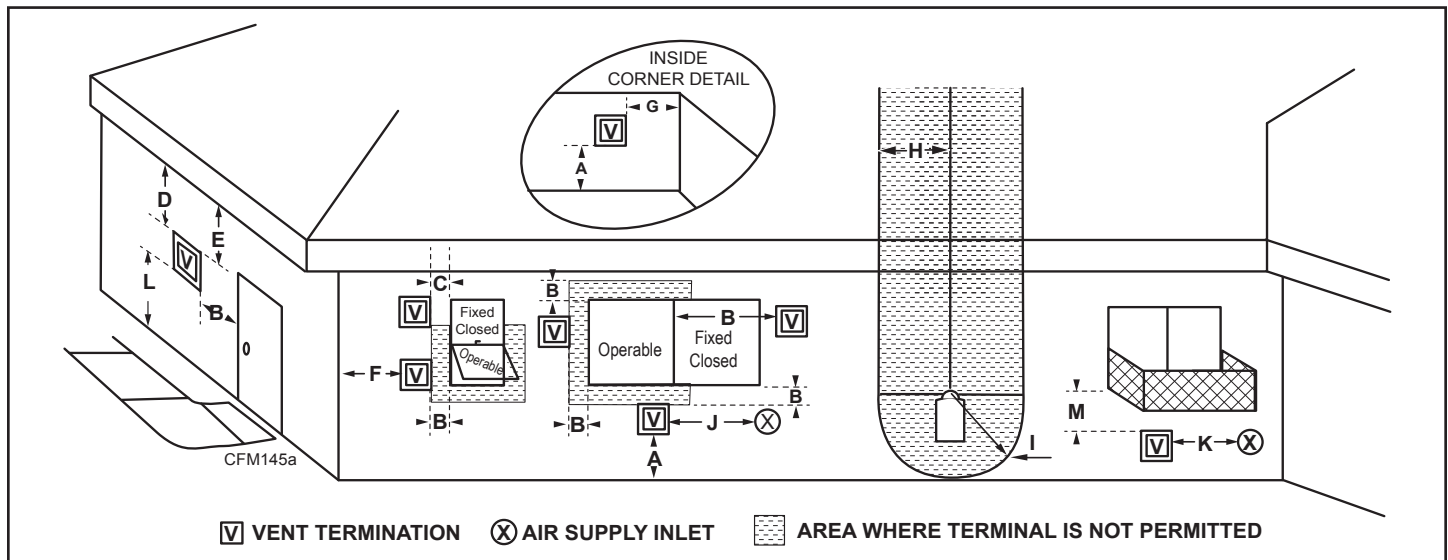

Figure 9 - Termination Locations
- Termination height must conform to roof clearance as specified in Figure 9.
Important: All vent clearances must be maintained. Check your vent termination clearances against Figures 9 and 10.